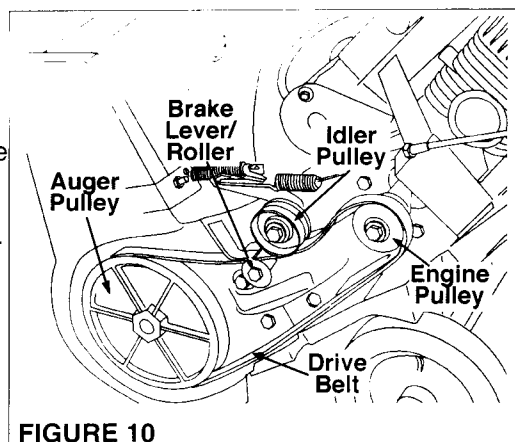

FIGURE 10
4. Move the auger control bail on the handle and slip the belt out from between the brake lever and the roller and away from the idler pulley. See figure 10.